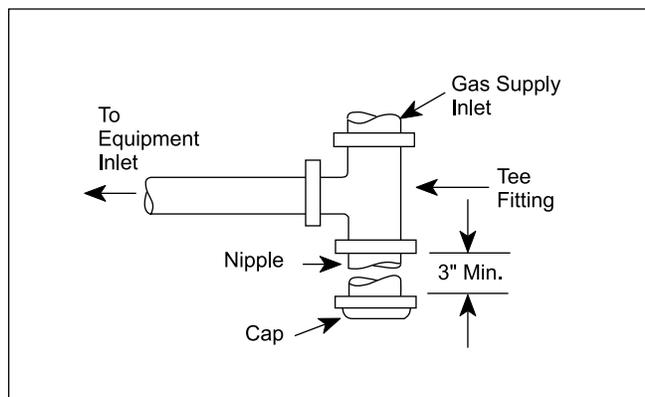

Figure 5. T-Fitting Sediment Trap Installation.
- A trap (drip leg) must be provided ahead of the gas controls (see Figure 5). Where required by code, provide a second manual gas shutoff valve. Do not remove manual valve furnished with the heater.